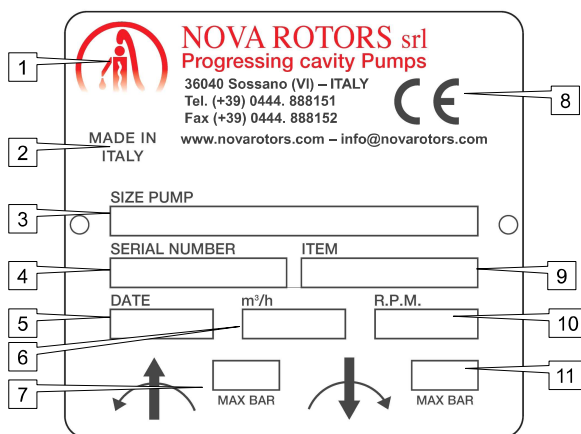

Fig.4 – Data plate for standard pump
- for standard pumps (**Fig.4**);
The pump is identified with the following code number, corresponding to the "SIZE PUMP" section on the data plate (3 - Fig.4 and Fig.2):